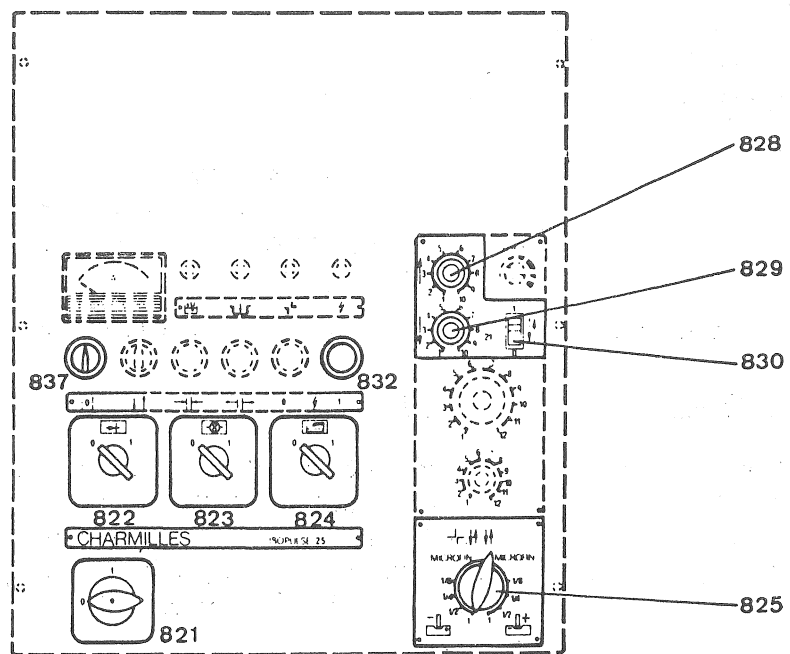

Fig 1
- By insertion of a resistor between terminals (804), after having removed the bridge (805).
- By connecting a capacitor across terminals (806), after having disconnected the capacitor - inside the generator - factory mounted across the internal tags of terminals (806). The latter capacitor can, subsequently, be mounted externally.
3.18 Machining under "pulsated" working conditions (fig. 1)